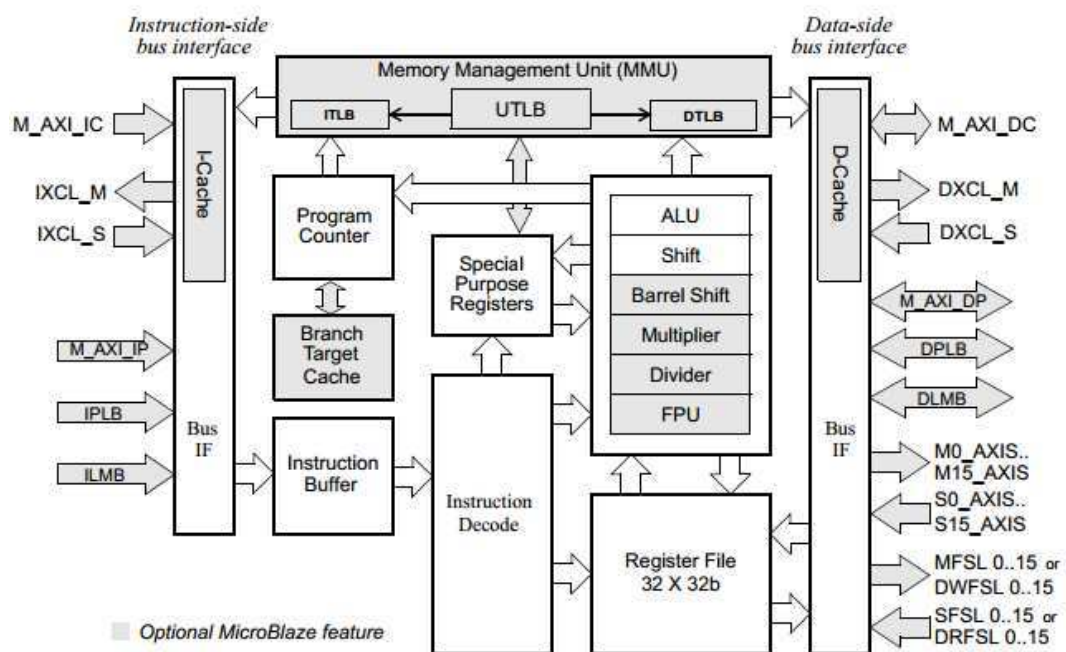

Figure 3.14. MicroBlaze Core Block Diagram
Xilinx provides a 32 bit reduced instruction set computer (RISC) soft processor which is called MicroBlaze [14]. It is an Intellectual Property (IP) that we can use to design a configurable and flexible system. The MicroBlaze is included with Xilinx ISE Design Suite: Embedded Edition and System Edition. Figure 3.14 shows the block diagram of the MicroBlaze [14].